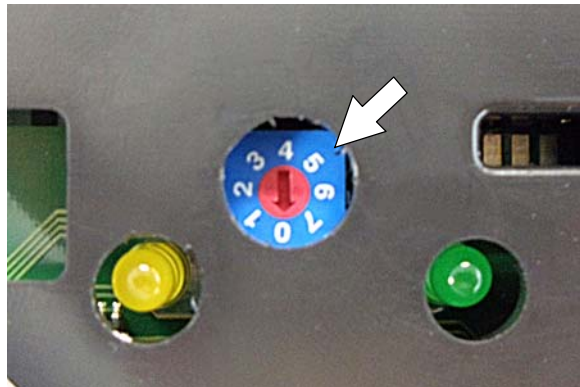

FIG. 126
- Using a small standard screwdriver, turn the dial to the appropriate battery type according to the following chart (Figure 126).